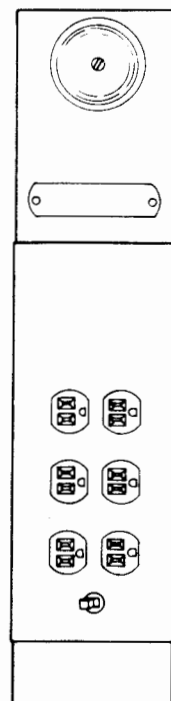

Figure 6 - Utility Strip
2.23 An electrical service unit variation utilizes a utility strip (Figure 6). The utility strip is a separate chassis containing some of the components normally contained in the main chassis. These components are the copyright transformer, motor control relay, ac receptacles, a circuit breaker instead of a fuse, and the signal bell which is normally mounted separate from the main chassis.